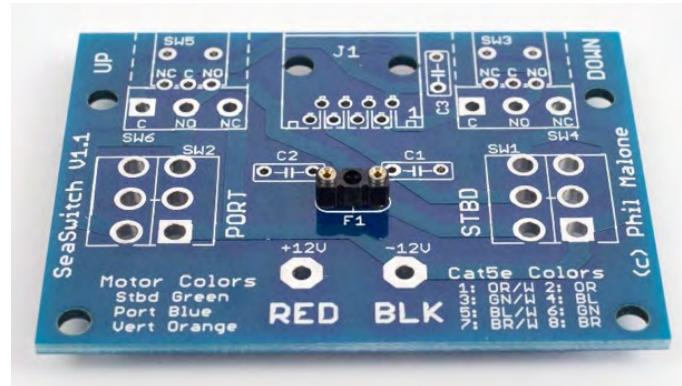

Figure 8
- Place its two terminals through the location labeled F1 on the component side of the PCB. (Figure 8)